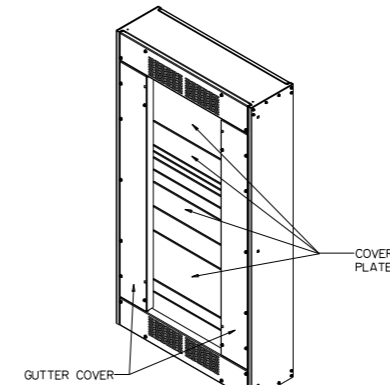

Figure 1
2. Reference fig. 1 - Remove the (2) gutter covers, deadfront and all cover plates.